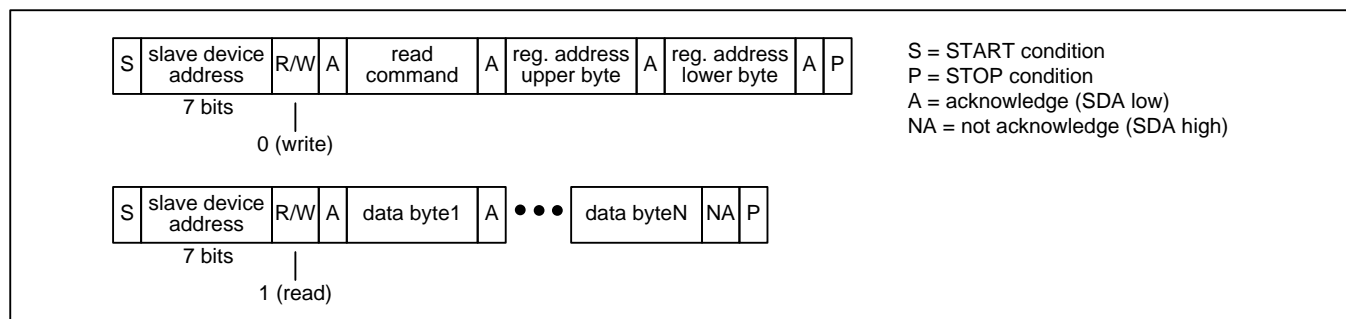

Figure 9 - I²C Read Transaction Functional Timing
**Read Transactions.** The device registers are accessible when the EESSEL bit is 0. On ZL30265 and ZL30267 the internal EEPROM memory is accessible when the EESSEL bit is 1. On ZL30264 and ZL30266 the EESSEL bit must be set to 0. The bus master first does an I2C write to the device. In this transaction three bytes are written: the SPI Read command (see Table 3), the upper byte of the register address, and the lower byte of the register address. The bus master then does an I2C read. During each acknowledge (A) bit the device fetches data from the read address and then increments the read address. The device then transmits the data to the bus master during the next 8 SCL cycles. The bus master terminates the read with a not-acknowledge (NA) followed by a STOP condition (P). See Figure 9. After the I2C write there can be unlimited idle time on the bus before the I2C read, but the device cannot tolerate other I2C bus traffic between the I2C write and the I2C read. Care must be taken to ensure that the I2C read is the first command on the bus after the I2C write to ensure the two-part read transaction happens correctly.
Note: In Figure 9 through Figure 12, a STOP condition (P) immediately followed by a START condition (S) can be replaced by a repeated START condition (Sr) as described in the I²C specification.